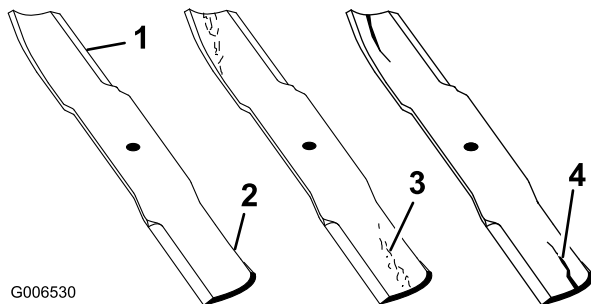

Figure 91
1. Inspect the cutting edges (Figure 91). If the edges are not sharp or have nicks, remove and sharpen the blades. Refer to (page).
2. Inspect the blades, especially the curved area (Figure 91). If you notice any damage, wear, or a slot forming in this area (Figure 91), immediately install a new blade.